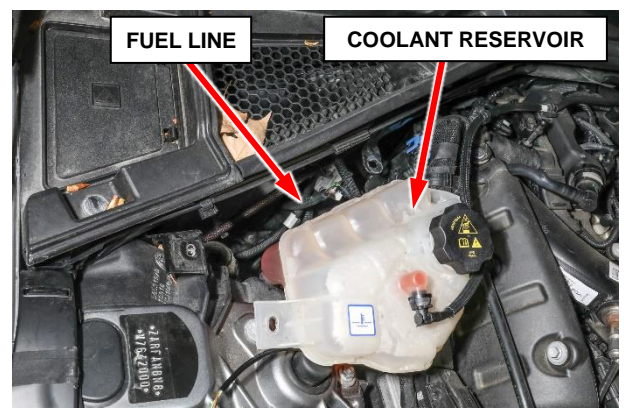

Figure 9 – Fuel Line Access
- Position the coolant reservoir forward to gain access to the fuel line (Figure 9).